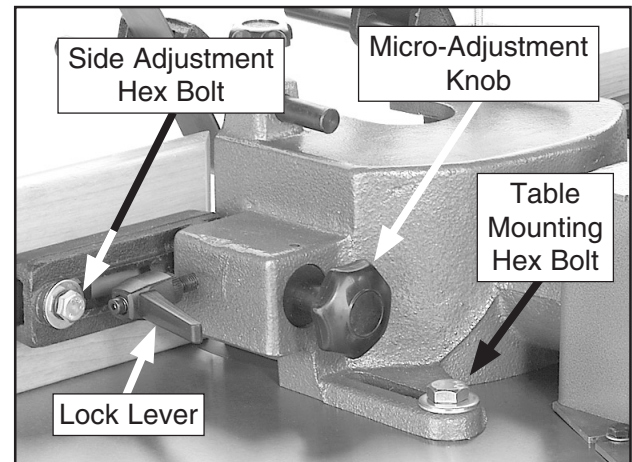

Figure 19. Fence controls.
2. Loosen the side adjustment hex bolt on the back of the fence board shown in **Figure 19**.
- Loosen the table mounting hex bolts that secure the fence and guard assembly to the table (see **Figure 19**), slide the assembly to the required position, then re-tighten the hex bolts.
- Loosen the lock lever (see **Figure 19**), rotate the micro-adjustment knob to move the fence board in-or-out, then re-tighten the lock lever to secure the fence board in position.